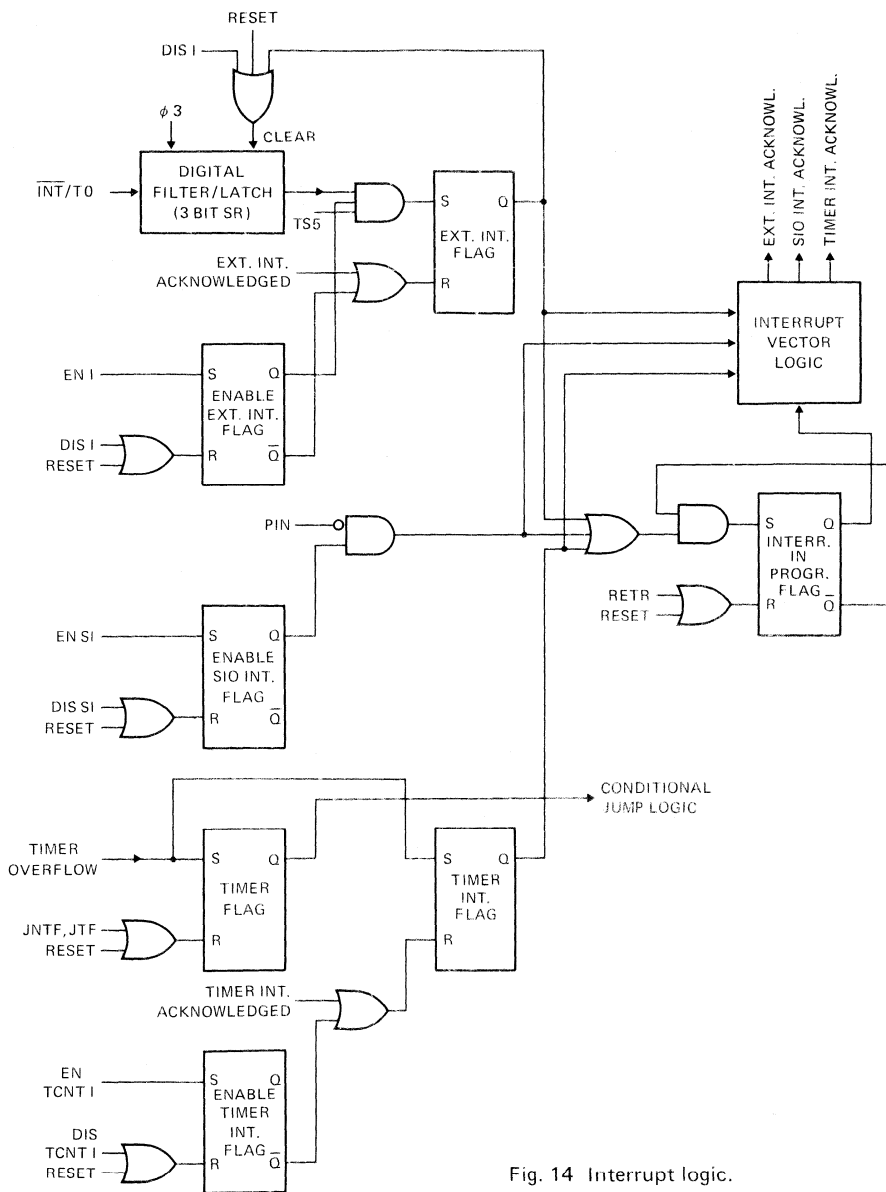

Fig. 14 Interrupt logic.
**FUNCTIONAL DESCRIPTION** (continued)**Interrupts** (see Fig. 14)
**Notes to figure 14**